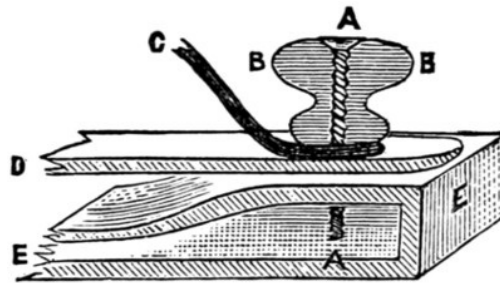

Fig. 4.—A Screw. B B Button. C Wire spring. D Spring-board.
The stand (A) is a piece of common deal about 13 in. long (for the figure eight inches high; if the figure is made larger or smaller all details will of course also be proportionately more or less). The width of the stand is  $2\frac{3}{4}$  in., and it is shaped as in the sketch. On top of the stand is a spring-board; this board is shaped as Fig. 2, rather less than  $\frac{1}{8}$  in. thick. From A to the shoulder at B is 6 in., and from B to the centre of the hole at D is 9 in., the whole length being therefore 15 in., and the spring-board in consequence projecting 4 in. beyond the end of the stand. At D on the stand is a button screwed to the stand, the screw passing through the hole in the spring-board, and by tightening up the screw the spring-board can be made more or less rigid as required. The spring marked c c (which can be put in either way; the dotted line is perhaps the least effective way, as the greater the spring—within limits—the better) is made of steel or iron wire, one end being stuck into the back of the figure and the other being bent as in Fig. 3, and put under the button, the screw passing through all, as shown in Fig. 4.